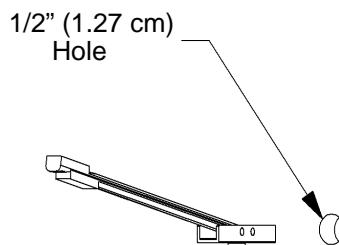

Figure 4.
1. Determine a suitable mounting location and lift the wall plate (10) into place (refer to "WALL MOUNT PLATE PARTS" on page 3).
2. Drill a 1/2" hole at the desired location, making sure wall is at least 1/2" thick. If the wall is made with metal studs, it is recommended to install the anchor through the drywall and the metal stud (see Figure 4).